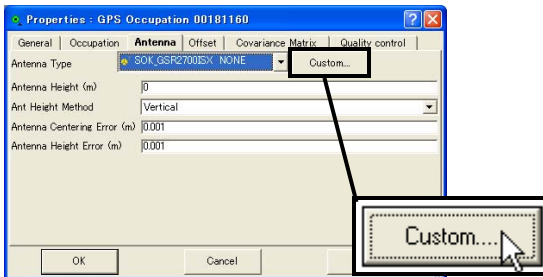
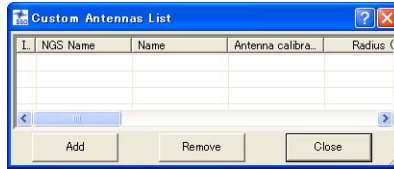

Figure 5-9. Custom Antennas List
Figure 5-10. New Custom Antenna
2. On the *Antenna* tab, click **Custom** (Figure 5-9) to display the *Custom Antennas List* dialog box (Figure 5-10).
- On the **Custom Antennas List** dialog box, click **Add** (Figure 5-10). To remove an antenna, click on the antenna's row and click **Remove**.